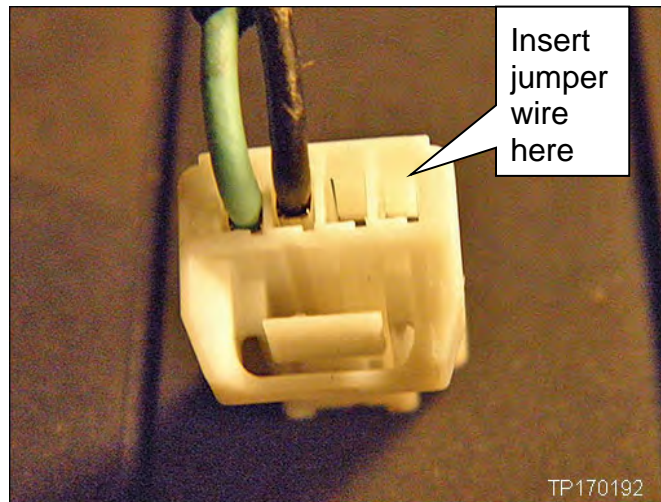

Figure 8
**NOTE:** In the next step, you will insert the other end of the jumper wire in the slot shown in Figure 8.
15. Insert the other end of the jumper wire as shown (see Figures 8 and 9).